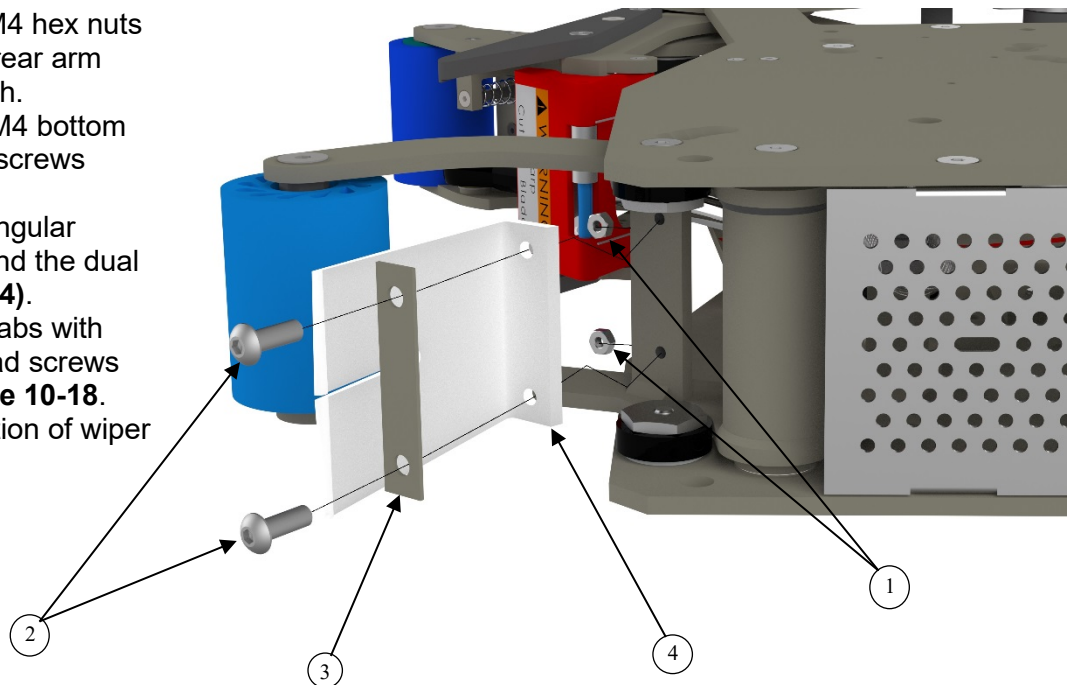

Figure 10-18
2. Unscrew the two M4 bottom head countersink screws (**item 2**).
4. Install new wiper tabs with two M4 button head screws as shown in **Figure 10-18**.